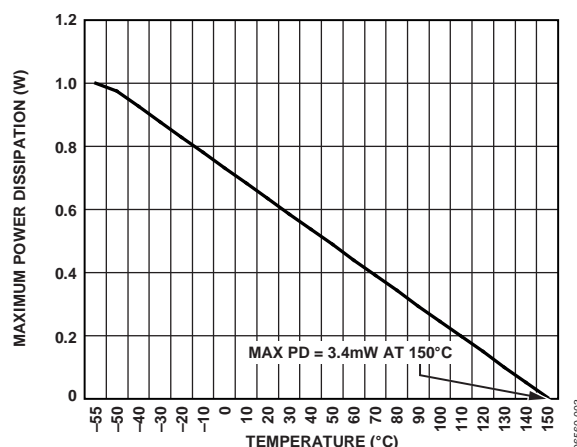

Figure 3. SOIC\_N Maximum Power Dissipation vs. Temperature
1 Values relate to package being used on a standard 2-layer PCB. This gives a worst-case θJA and θJC. See Figure 3 for a plot of maximum power dissipation vs. ambient temperature (TA).